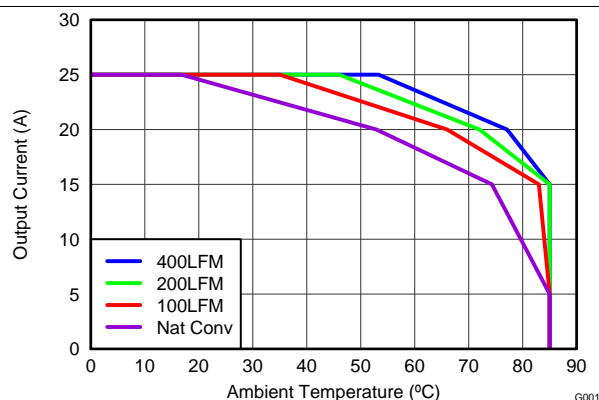
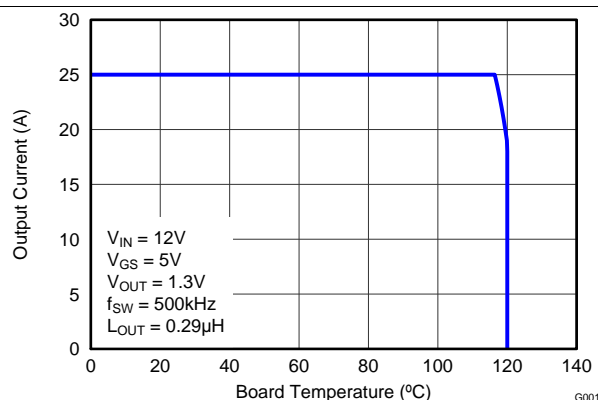

Figure 3. Safe Operating Area – PCB Horizontal Mount
Figure 4. Typical Safe Operating Area
$T_J = 125^{\circ}\text{C}$, unless stated otherwise. The Typical Power Block System Characteristic curves Figure 3 and Figure 4 are based on measurements made on a PCB design with dimensions of 4.0 inches (W) \times 3.5 inches (L) \times 0.062 inch (H) and 6 copper layers of 1 oz. copper thickness. See Application and Implementation for detailed explanation.
$T_J = 125^\circ\text{C}$, unless stated otherwise. The Typical Power Block System Characteristic curves Figure 3 and Figure 4 are based on measurements made on a PCB design with dimensions of 4.0 inches (W) \times 3.5 inches (L) \times 0.062 inch (H) and 6 copper layers of 1 oz. copper thickness. See Application and Implementation for detailed explanation.
The SOA curves in the CSD87588N data sheet provide guidance on the temperature boundaries within an operating system by incorporating the thermal resistance and system power loss. Figure 3 to Figure 4 outline the temperature and airflow conditions required for a given load current. The area under the curve dictates the safe operating area. All the curves are based on measurements made on a PCB design with dimensions of 4 inches (W) x 3.5 inches (L) x 0.062 inch (T) and 6 copper layers of 1 oz. copper thickness.